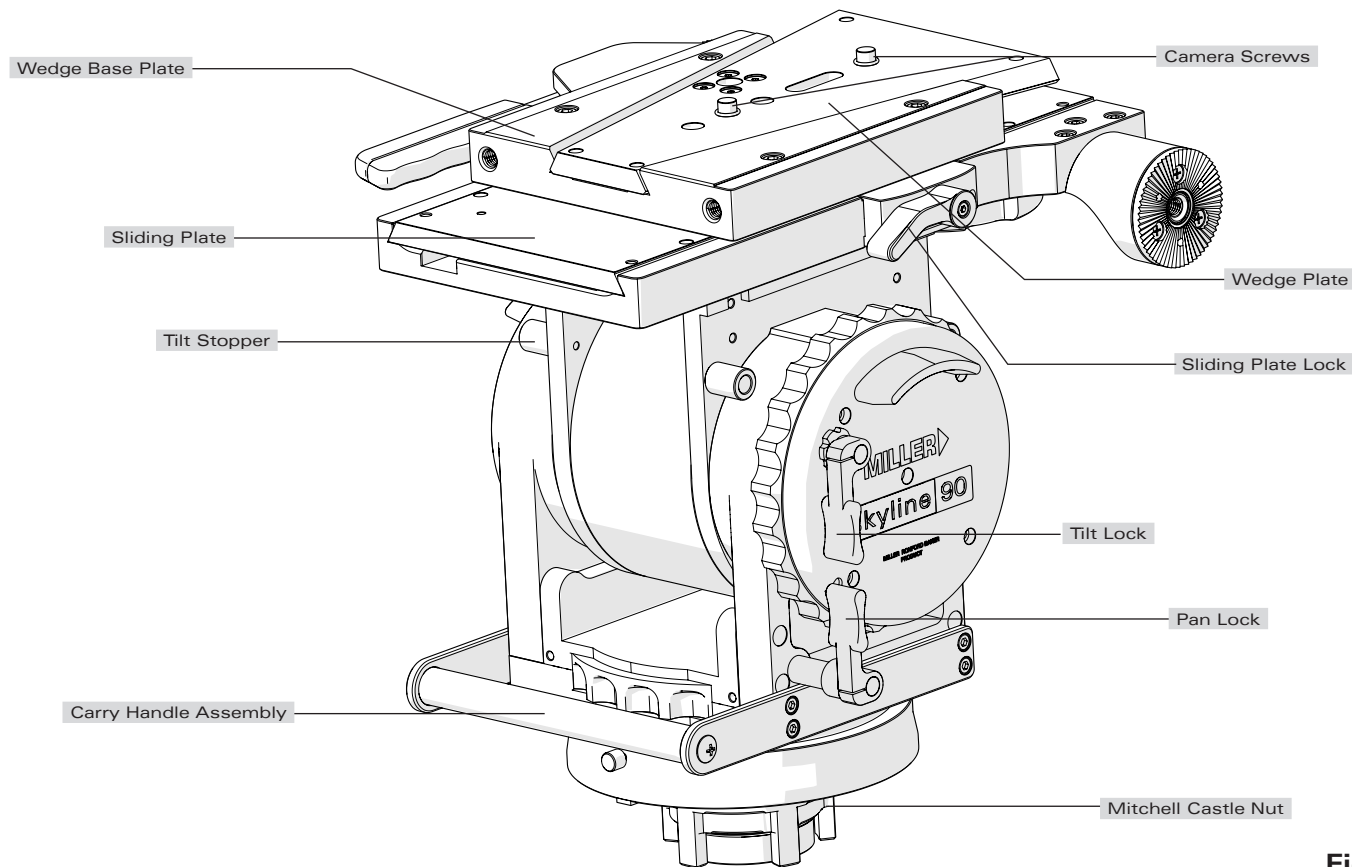

Fig. 1
- 1.5 Set the initial control settings as follows – see Figure 1 & 2: